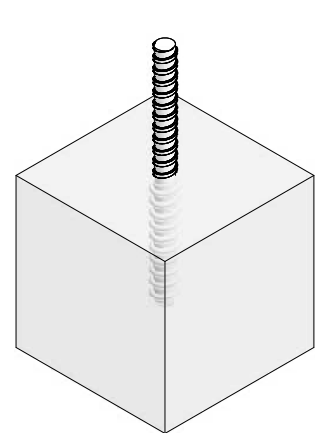

Fig. 9.5
- Insert and screw in the DW 15 tie rod to attach the intended equipment (Fig. 9.5). Make sure to observe the Operating Instructions of the spiral anchor.